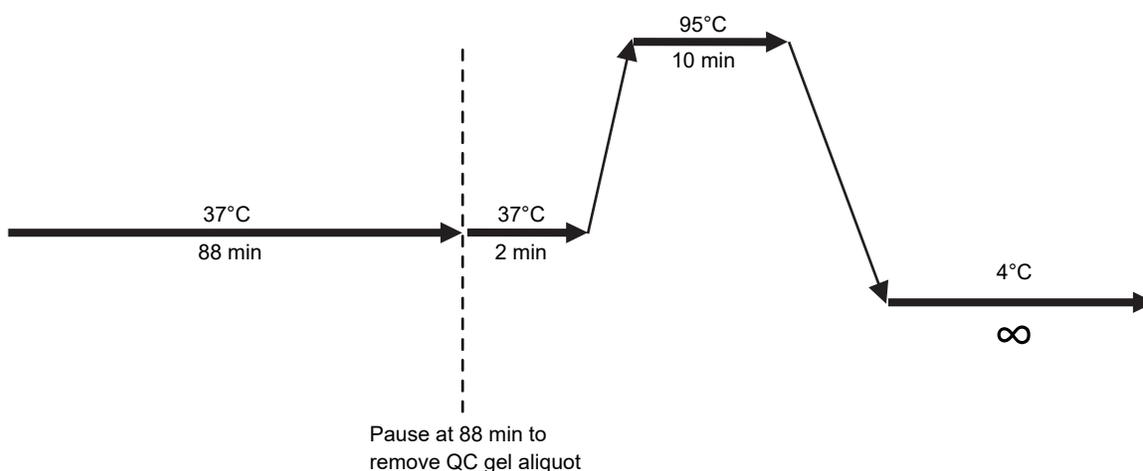

Figure 24 OncoScan *HaeIII* thermal cycler protocol.
2. Start the OncoScan *HaeIII* thermal cycler protocol. (Figure 24.)
**IMPORTANT!** After 85 minutes, return to the thermal cycler to pause the protocol and remove an aliquot for the Second QC Gel. (Figure 24.) The OncoScan *HaeIII* thermal cycler protocol must be paused and the aliquot taken before the thermal cycler block temperature ramps to 95°C.
1. When the protocol reaches 88 minutes, and the thermal cycler block temperature is at 37°C, pause the OncoScan HaeIII thermal cycler protocol. (Figure 24.)